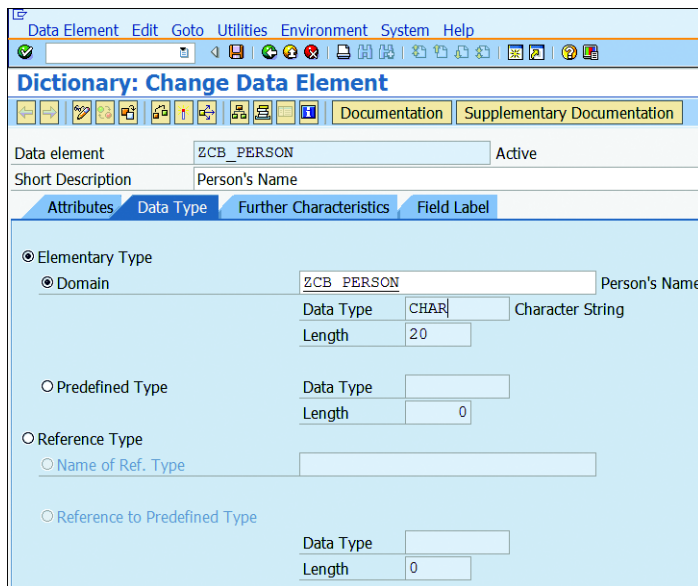

Figure 4.16 Attaching Domain to Data Element
5. Activate the domain. To attach this domain to a data element, open the data element and select the DOMAIN radio button under the ELEMENTARY TYPE radio button, as shown in Figure 4.16. Type the name of the domain and press .